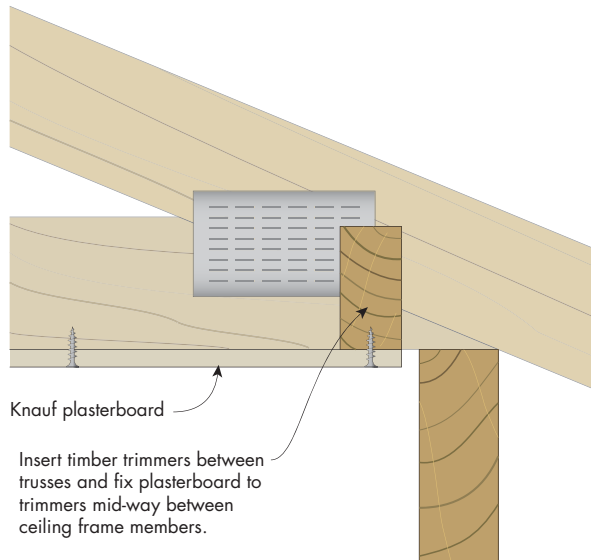

FIGURE 17 Plasterboard Ceiling Fixed to Roof Truss
- Provide additional framing around perimeter by inserting trimmers between ceiling frames or installing Knauf steel angle [Refer to Figures 17 and 18]